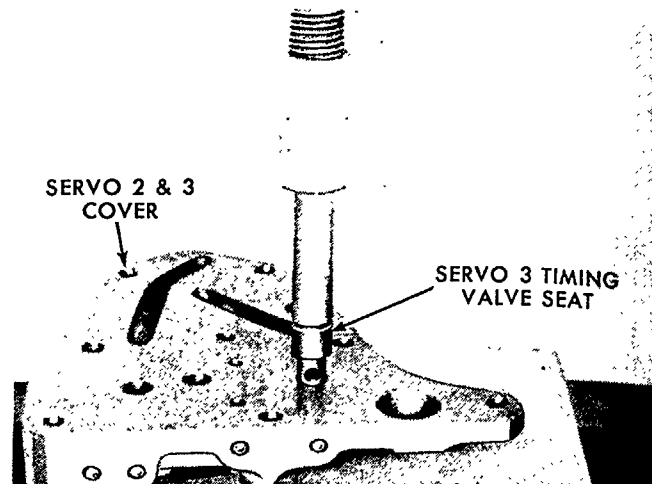

Figure 117
1. Press the valve seats into the cover, as shown in Figure 117.